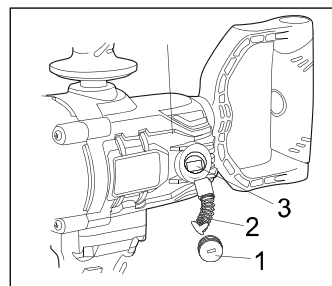

Fig. 13
1. Use a 3/16" (5 mm) slot screwdriver and remove one brush cap (1) (fig. 13). Turn the brush cap counter-clockwise to remove it from the motor housing.
2. Pull the spring & brush assembly (2) from the brush holder (3) in the motor housing (4).